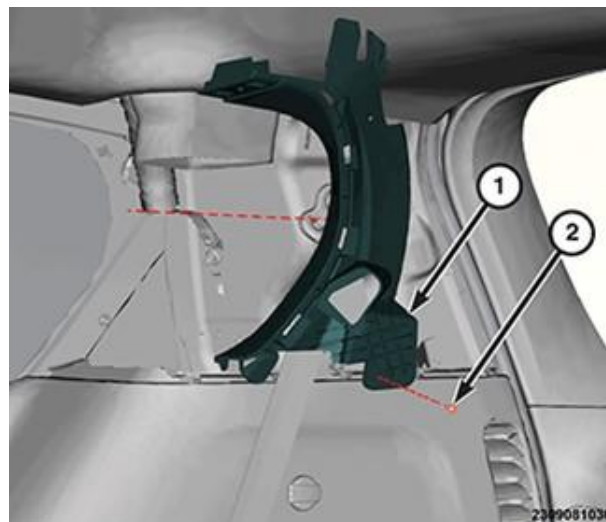

Figure 16 – D-Pillar Extension
38. Remove the curtain airbag push-fastener that is installed through the D-pillar extension, then unclip and lower the extension to remove (Figure 16).